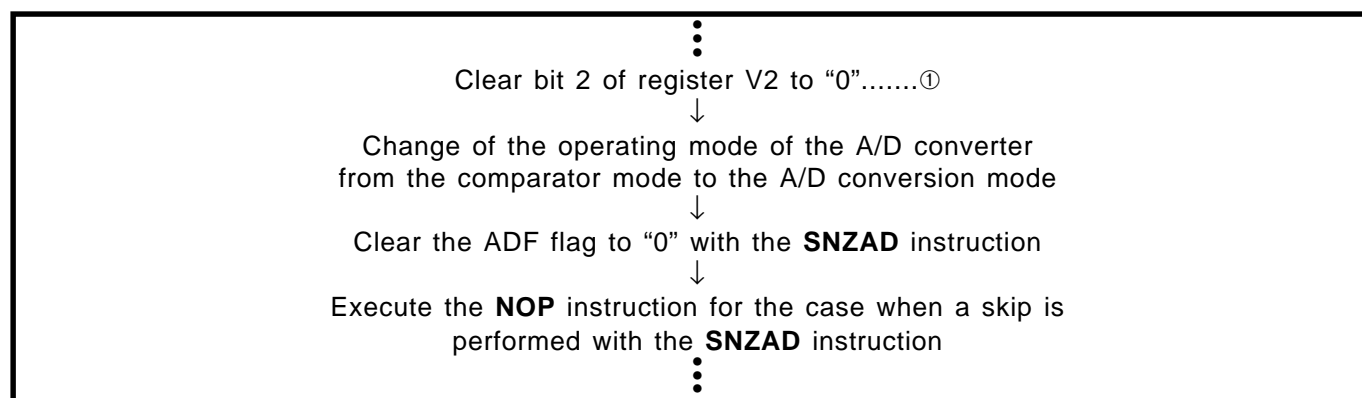

Fig. 3.3.7 A/D converter operating mode program example
- Clear bit 2 of register V2 to "0" to change the operating mode of the A/D converter from the comparator mode to the A/D conversion mode with bit 3 of register Q1 (refer to Figure 3.3.7①).